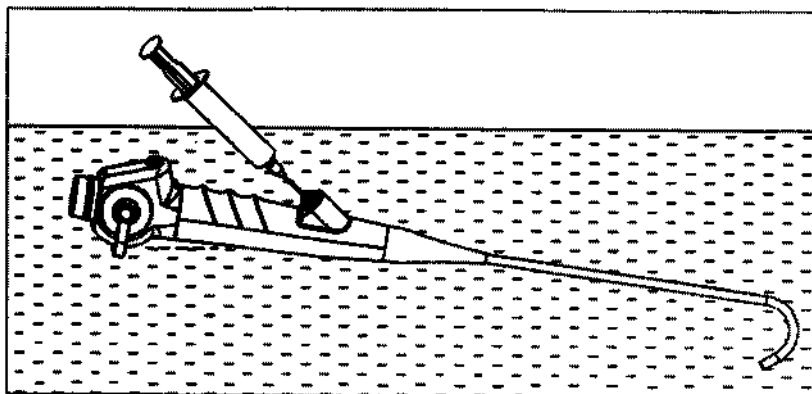

Fig 7.16
3. Pull up the push rod of the syringe and fill the working channel with detergent. (See Fig 7.16)